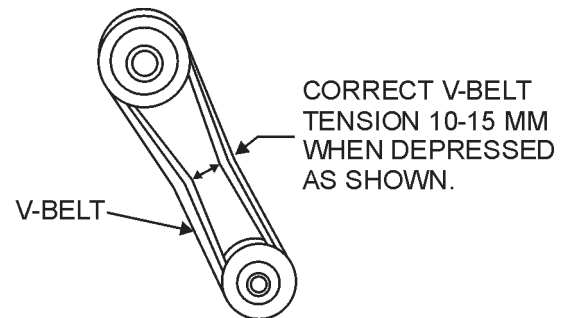

Figure 10. V-Belt Tension
2. The V-belt tension is proper if the V-belt bends 10 to 15 mm (Figure 10) when depressed with finger at midway between the clutch and vibration pulley shaft.